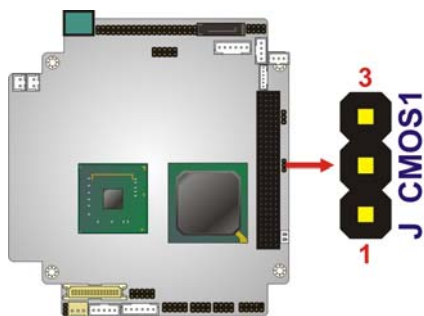

Figure 4-3: Clear BIOS Jumper Location
- Jumper Location:** See Figure 4-3